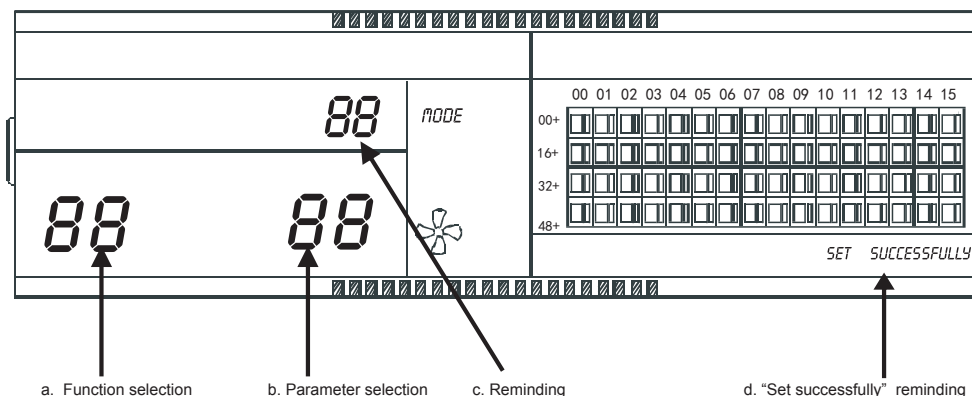

Fig 2.9 Filter net in addition to the dust function involves of show a contents
① Dial the dial code 3 to "ON", select the "Has optional function" referring to table 2.1 to , and then power on the centralized controller, in 1 minute press "  " key and hold on then press "  " key, enter to optional function setting. Dual eight represented function selection (Fig.2.9 a) will be flashed with 1Hz frequency (default display 00), display the optional function code (see table 2.2). Press "  " and "  " keys to select function, and then press "  " key to enter parameter selection.
② After enter parameter selection, dual eight represented function selection will be lighted on, dual eight represented parameter selection (Fig.2.9 b) will be flashed with 1Hz frequency, display optional parameter code. Through pressing "  " and "  " keys to select the detailed parameter.
③ Press "  " to confirm parameter selection(details parameter codes' corresponding time refer to table 2.3).
④ After setting successfully, Dual eight represented function selection and dual eight represented function selection will be lighted on, the screen will display "Setting successfully" (Fig. 2.9 d). After 3 seconds will auto exit optional function setting. The screen will back to normal display.